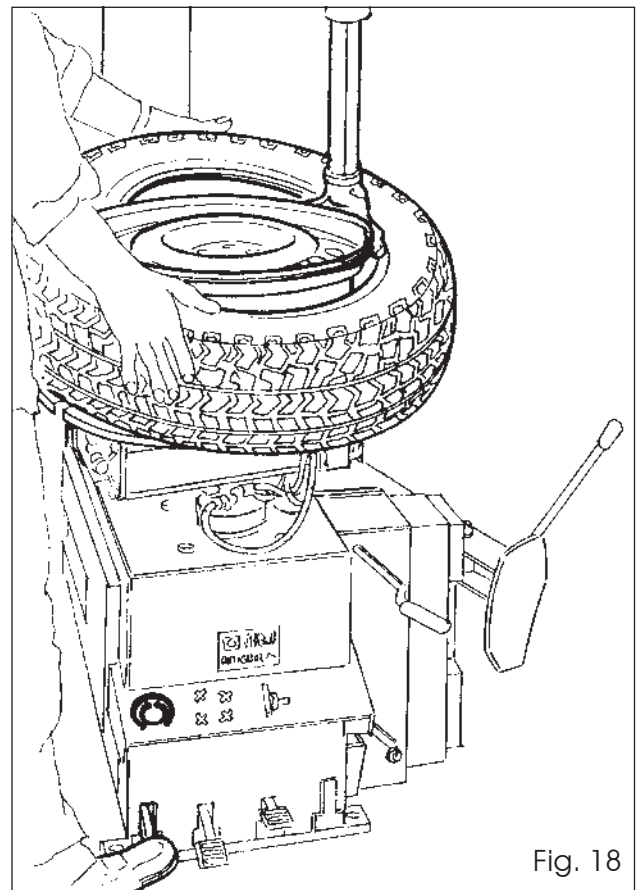

Fig. 18
- ❑ Once the bottom bead is completely mounted, repeat the same steps for the upper bead (Fig.18).
- ❑ If you are working with aluminium alloy wheels, external locking is recommended, using with the supplied protection kit for the sliding clamps (26) in order to avoid the risk of damaging the wheel.